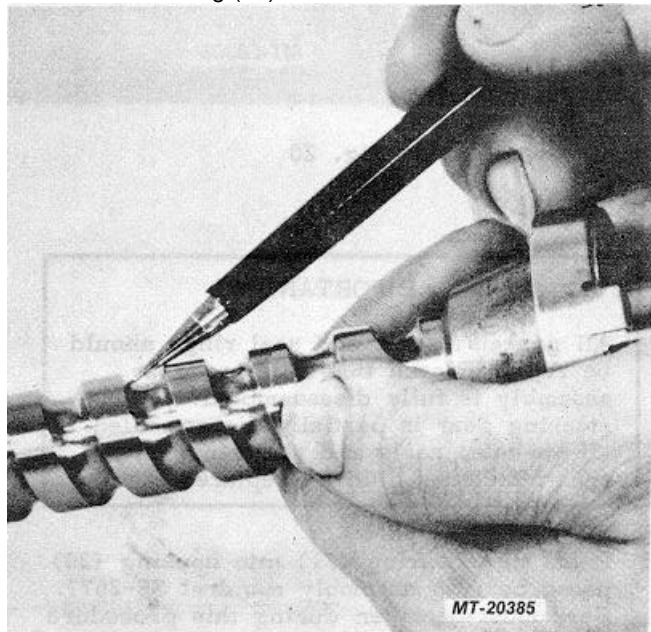

Fig. 19
36. Remove seal ring (29) and "O" ring (30) from rack piston (31). 37. Inspect worm shaft (17) helical groove for brinelling (Fig. 19). If this condition is visible the rack piston (31), valve sleeve (15) and worm shaft must be replaced. Remove seal ring (19) and "O" ring (18) from worm shaft.